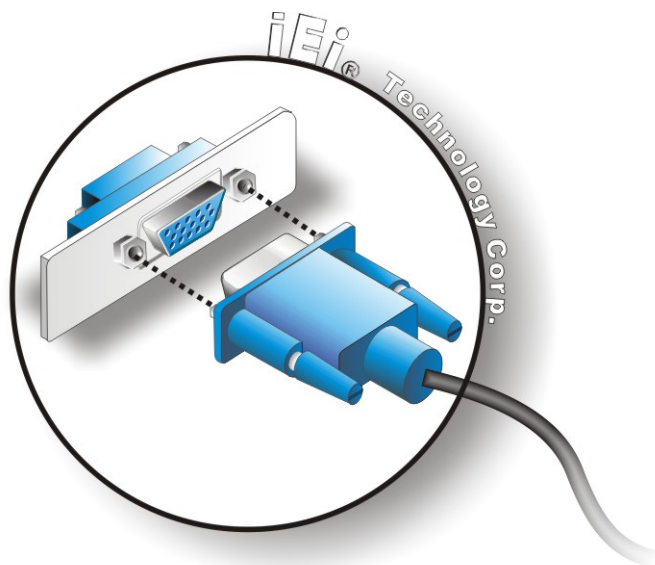

Figure 4-18: VGA Connector
- Step 3: Insert the VGA connector** Once the connectors are properly aligned with the insert the male connector from the VGA screen into the female connector on the KINO-780AM2. See Figure 4-18.